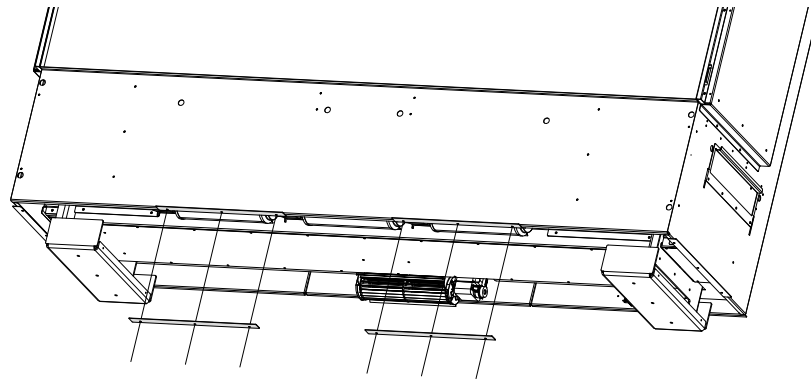

Figure 4.6 - Finishing Bracket Removal
- If you want the air intake opening to be at the floor you can follow the illustrations in Figure 4.4, Figure 4.6, and Figure 4.7. See more information on the following page.
Requirement #1 -The fireplace comes with two finishing edge brackets preinstalled at the bottom of the fireplace for the air intake opening. Since you are moving the air intake opening to a position lower than the fireplace you will have to remove the two bottom finishing edge brackets. Each bracket is held on with (2) sheet metal screws. Once removed you can discard. See Figure 4.6.
We have an option where you can visually hide the air intake. You would install an overhang over the air intake opening. A way to achieve this would be to create a floating hearth. Depending on your desired height of the fireplace, the platform may raise the air intake opening higher than you want. Follow the requirements in Section 4.3 (Specifically Figure 4.6 and 4.7) for an air intake raised off the floor to meet the requirements in this section.